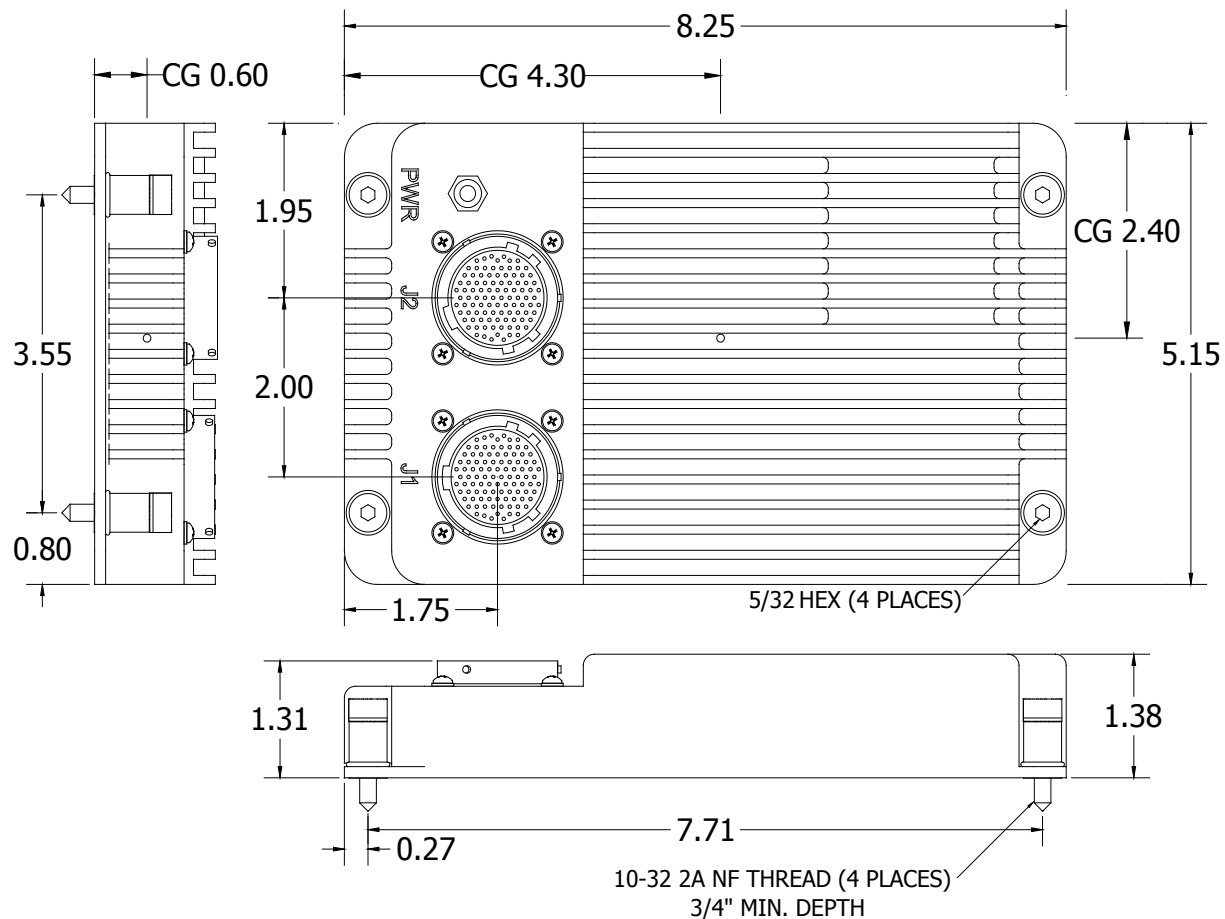

Figure 9-1: External Dimensions
The rectangular mounting pattern for the attachment points is 3.55" x 7.71" as shown in Figure 9-1. The overall external dimensions are 8.25" L x 5.15" W x 1.38" H.
The Center of Gravity (CG) is also shown in Figure 9-1. It is indicated by the letters "CG" before the dimension.